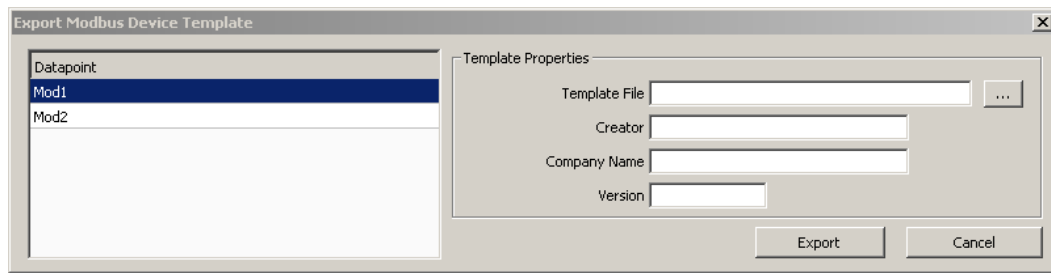

Figure 216 Export Modbus Device Template dialog.
- Press the **Export Device Templ.** button. This opens the **Export Modbus Device Template** dialog shown in Figure 216. The list on the left side of the dialog shows the names of the data points which are exported to the template.
- This opens the **Export Modbus Device Template** dialog as shown in Figure 216. Proceed as described above.